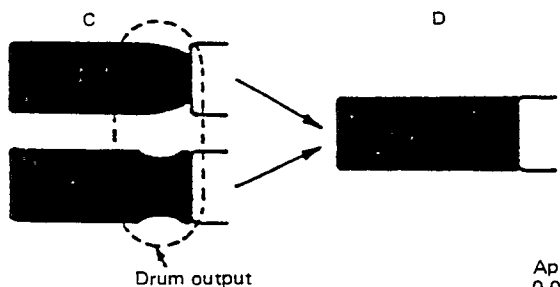
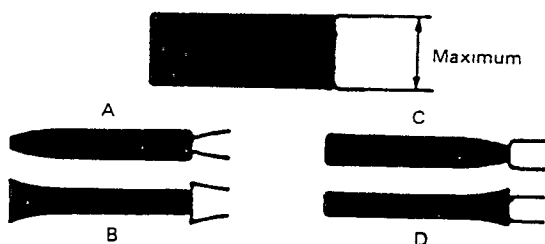
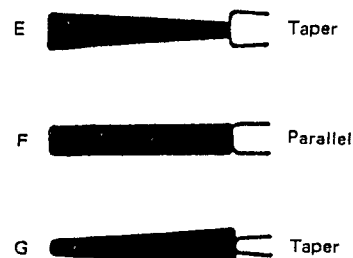

Fig. 32 Drum output adjustment
Fig. 34 Minimum FM output (incorrect examples)
Fig. 35 Minimum FM output (correct examples)
1. In the same manner as for the drum input, turn the take-up guide roller to adjust the falling portion (drum output portion) of the FM waveform. Incorrect examples are shown by C in Fig. 32, while D indicates the correct adjustment.
2. If the tape separates from the guide or wrinkling occurs at the take-up guide pole, adjust by turning screw ③ of the audio/control head as shown in Fig. 32.
2. If the tape separates from the take-up guide pole or wrinkling occurs, screw ③ (Fig. 32) has been turned excessively with respect to nut ① and screw ② causing the audio/control head to incline forward or rearward. Use care to adjust screws ②, ③ and nut ① evenly and observe that small wrinkles are not produced at the take-up guide pole.
③ Interchangeability fine adjustment
2. If the waveform becomes as shown by A or B of Fig. 34, carefully adjust the supply guide roller height so that the waveform becomes as shown by E, F or G of Fig. 35. At this time, if the waveform fluctuates, adjust to the point of minimum fluctuation.
3. If the FM waveform appears as shown by C or D in Fig. 34, carefully adjust the take-up guide roller height to obtain a waveform such as shown by E, F or G of Fig. 35. At this time, if the waveform fluctuates, adjust to the point minimum fluctuation.
Perform fine adjustment of supply and take-up guide rollers so that waveform variation becomes as shown by E, F or G of Fig. 35.